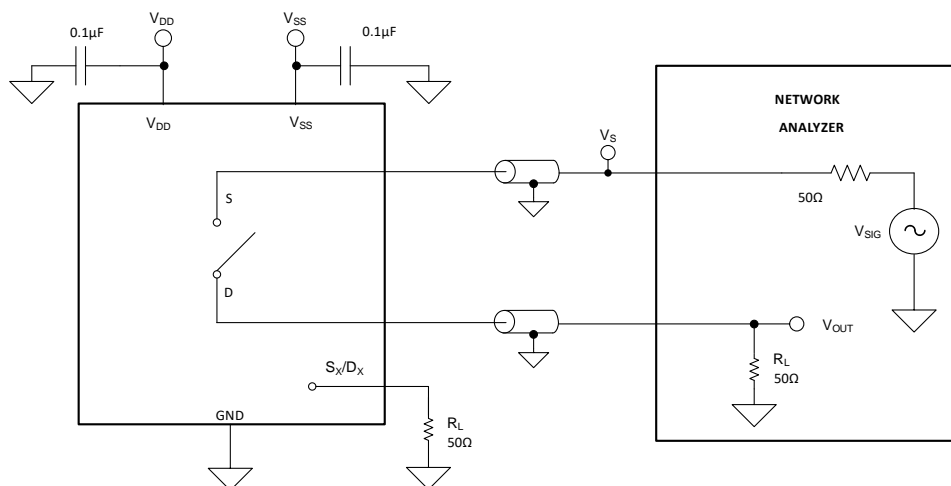

图 25. Off Isolation Measurement Setup
Off isolation is defined as the ratio of the signal at the drain pin (D) of the device when a signal is applied to the source pin (Sx) of an off-channel. 图 25 shows the setup used to measure and the equation used to compute off isolation.